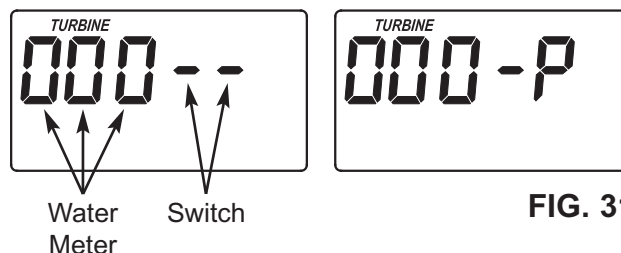

FIG. 31
3. The letter "P" and a dash (or dashes) indicate POSITION switch operation (See Figure 31). If the letter appears, the switch is closed. If the dash shows, the switch is open.